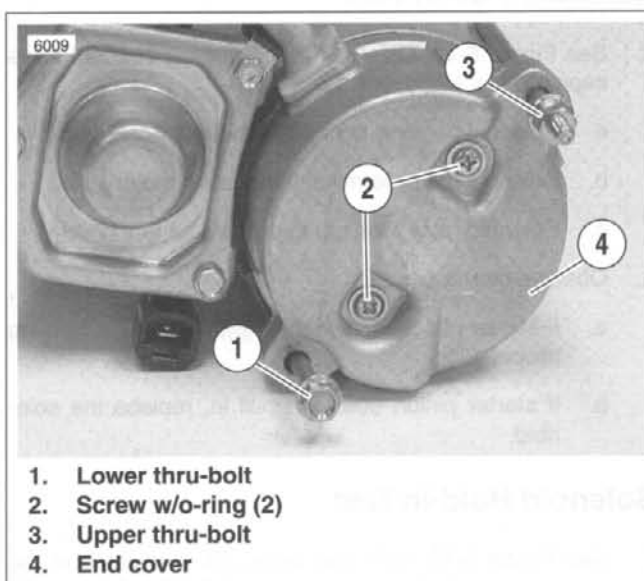

Figure 5-16. Removing the Thru-Bolts
2. See Figure 5-16. Remove both thru-bolts (1, 3).
3. Remove both end cover screws with O-rings (2) and end cover (4).